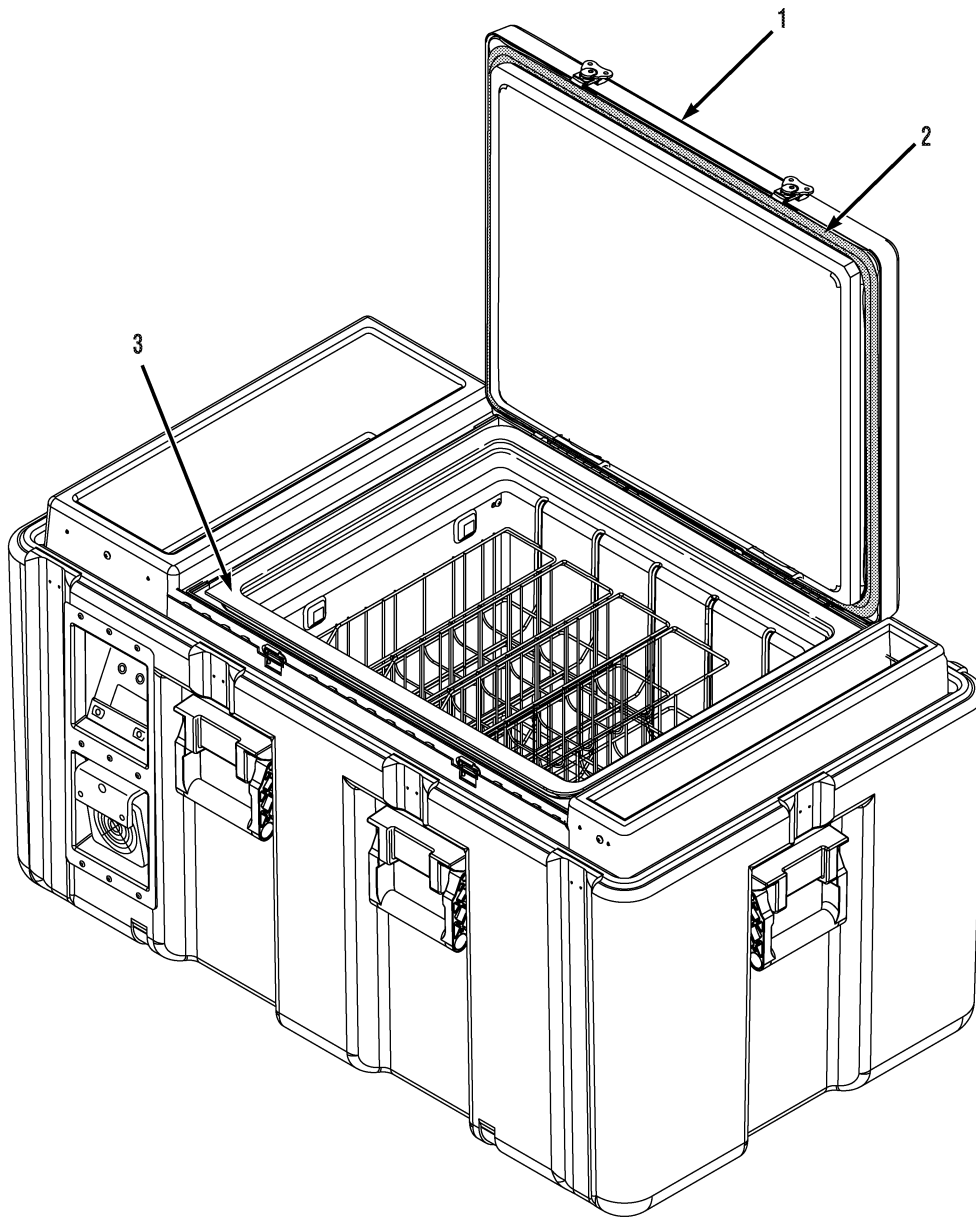

Figure 2-6. Replacement of Inner Lid Gaskets
- (1) Disconnect all external power sources and prepare the unit for maintenance (Para 2-1).
- (2) Open the inner lid (1, Figure 2-6).
- (3) Remove the lid gaskets (2) and adhesive from the inner lid (1) surface using a putty knife at a shallow angle.